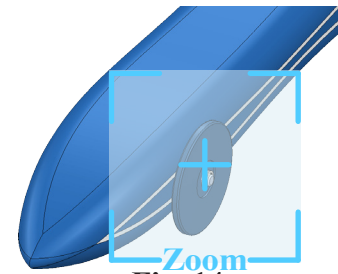

Fig. 14
Step 1. Zoom in around **Front Wheel**, **Fig. 14**. To zoom, place the cursor over the Front Wheel and spin the wheel on mouse back. While spinning the wheel keep cursor on the Front Wheel.